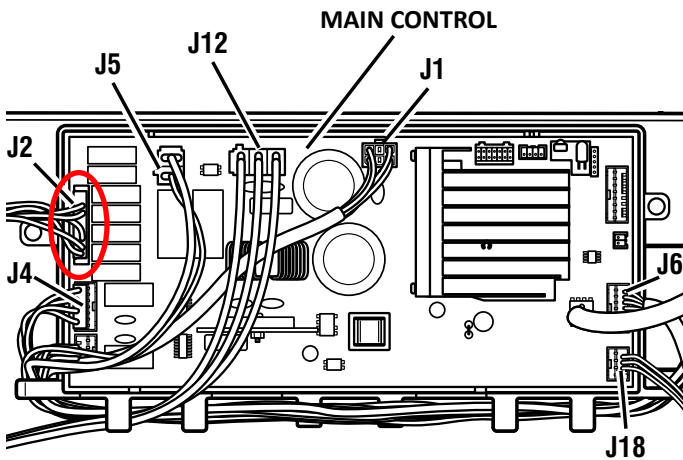

Figure 1
- Disconnect the Water Inlet Valve connector "J2" from the Main Control (see Figure 1).